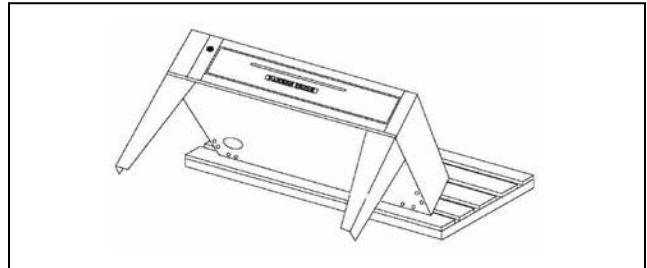

Figure 2
- b) Using sufficient help, tilt the oven forward and lower it down so that the two front legs come to rest on the floor. (See Fig.2)